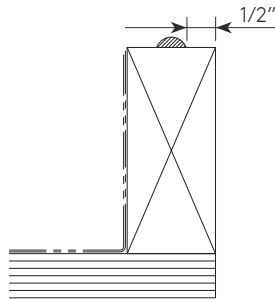

Figure 3.0
- Before setting the skylight on the curb run a minimal 3/8" sealant bead around the entire perimeter of the curb. It's advisable to keep the sealant about 1/2" away from both the inside and outside of the curb. (See Figure 3.0) If the skylight has a factory installed curb mount seal tape on the underside of the frame (the surface that's mates with the top face of the curb) a sealant bead is unnecessary. Most curb seal tapes are closed cell urethanes measuring 1 1/2" x 1/4".